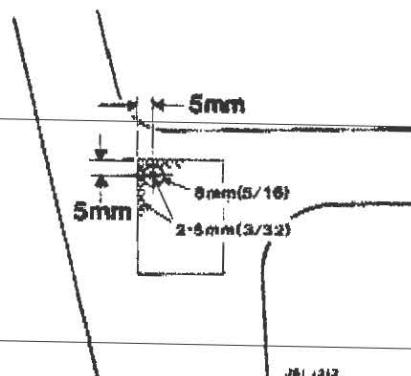

FIG 2
- * Using a small drill bit, 2.5mm (3/32 in), carefully drill a series of holes around the marked-out dimensions on the tape. Drill an additional pilot hole using a 2.5mm (3/32 in) drill and taking extreme care, enlarge the pilot hole using an 8.0mm (5/16 in) drill; see Fig 2: